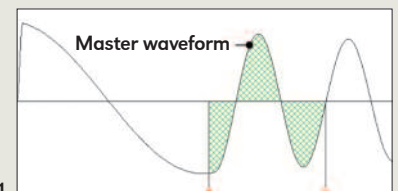

Figure 1
1. Area size comparison (Figure 1)